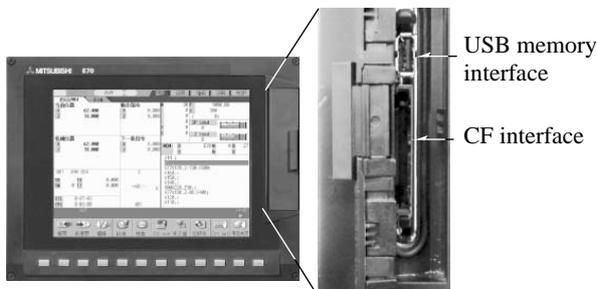

Fig. 1 Front-side USB and CF interfaces
- (1) The following functions are included as standard features for easy data input and machining for a large program:
- c) CompactFlash2 (CF) interface on the front panel (Fig. 1)
- (2) A keyboard option for lathe application with sheet keys is newly added.
- (3) The number of I/O points is reduced to 64/48 from the level of the high-end model to offer the best cost effectiveness.